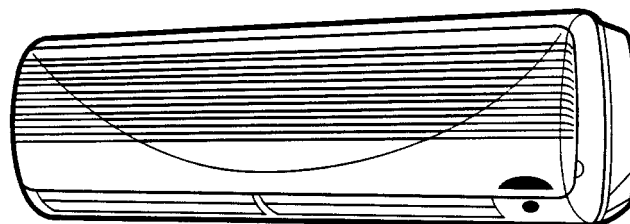

Fig. 1 — 619E High Wall Fan Coil Unit
1. Read and become familiar with these installation instructions before installing this unit (see Fig. 1).
The new 619E heat pump high wall fan coil units (Fig. 1) DO NOT have electric heaters. These new heat pump fan coil units have been specifically designed to improve system efficiency in both heating and cooling modes when matched with a 538B outdoor heat pump unit. If your application requires heating, heat pump units must be used, both outdoors and indoors. See Table 1 for recommended system combinations.
Upon receipt of shipment, check unit (Fig. 1) for damage. Forward claim papers directly to the transportation company. Manufacturer is not responsible for damage incurred in transit.